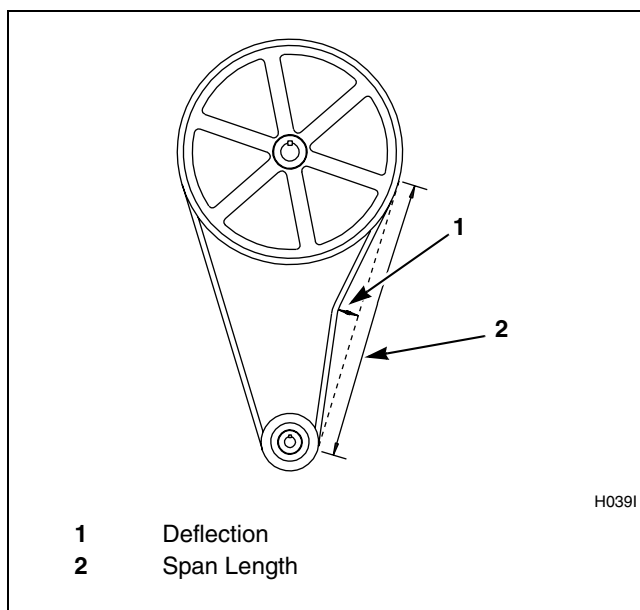

Figure 16
d. For variable-speed models only, verify that v-belts are properly tensioned by applying a set force to the belt and measuring the deflection to determine the belt tension. Refer to *Table 4* for the acceptable belt tension ranges. Belt tension measurements should be taken as close to the center of the belt span as possible. Refer to *Figure 16*.